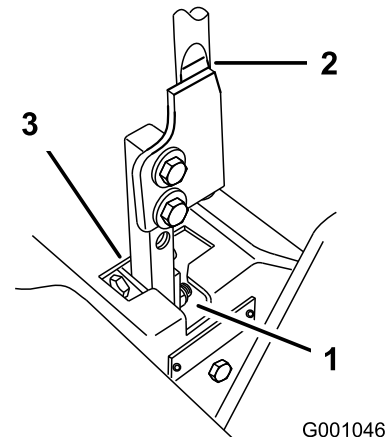

Figure 84
5. Move the lever to the neutral position but not locked (Figure 84).
6. Pull the lever back until the clevis pin (on arm below pivot shaft) contacts the end of the slot (just beginning to put pressure on the spring) as shown in Figure 84.
7. Check where the control lever is relative to notch in console (Figure 84).